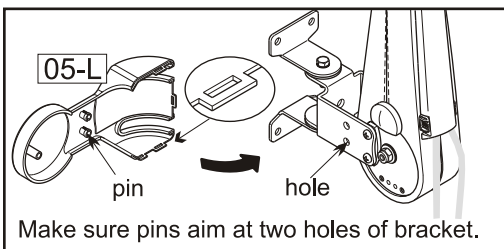

Fig.1
- a. 05-L two pins must aim at two holes on arm bracket. (Fig.1)